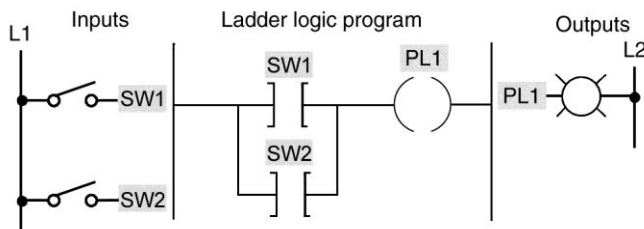

Figure 2-17 Program for assignment 4.
- 4a) Program your controller to operate according to Figure 2-17.